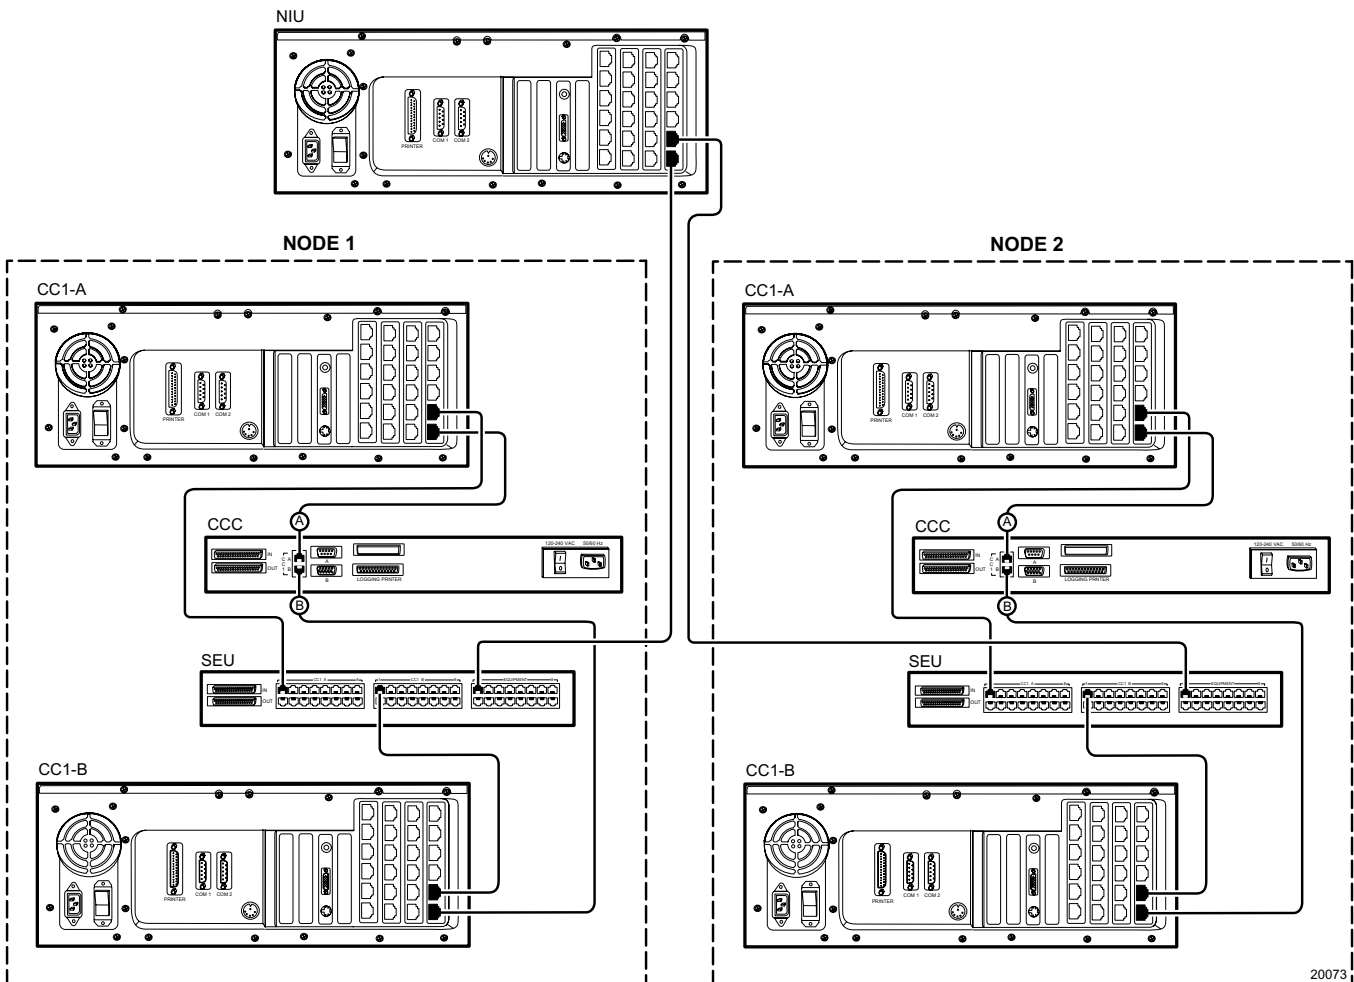
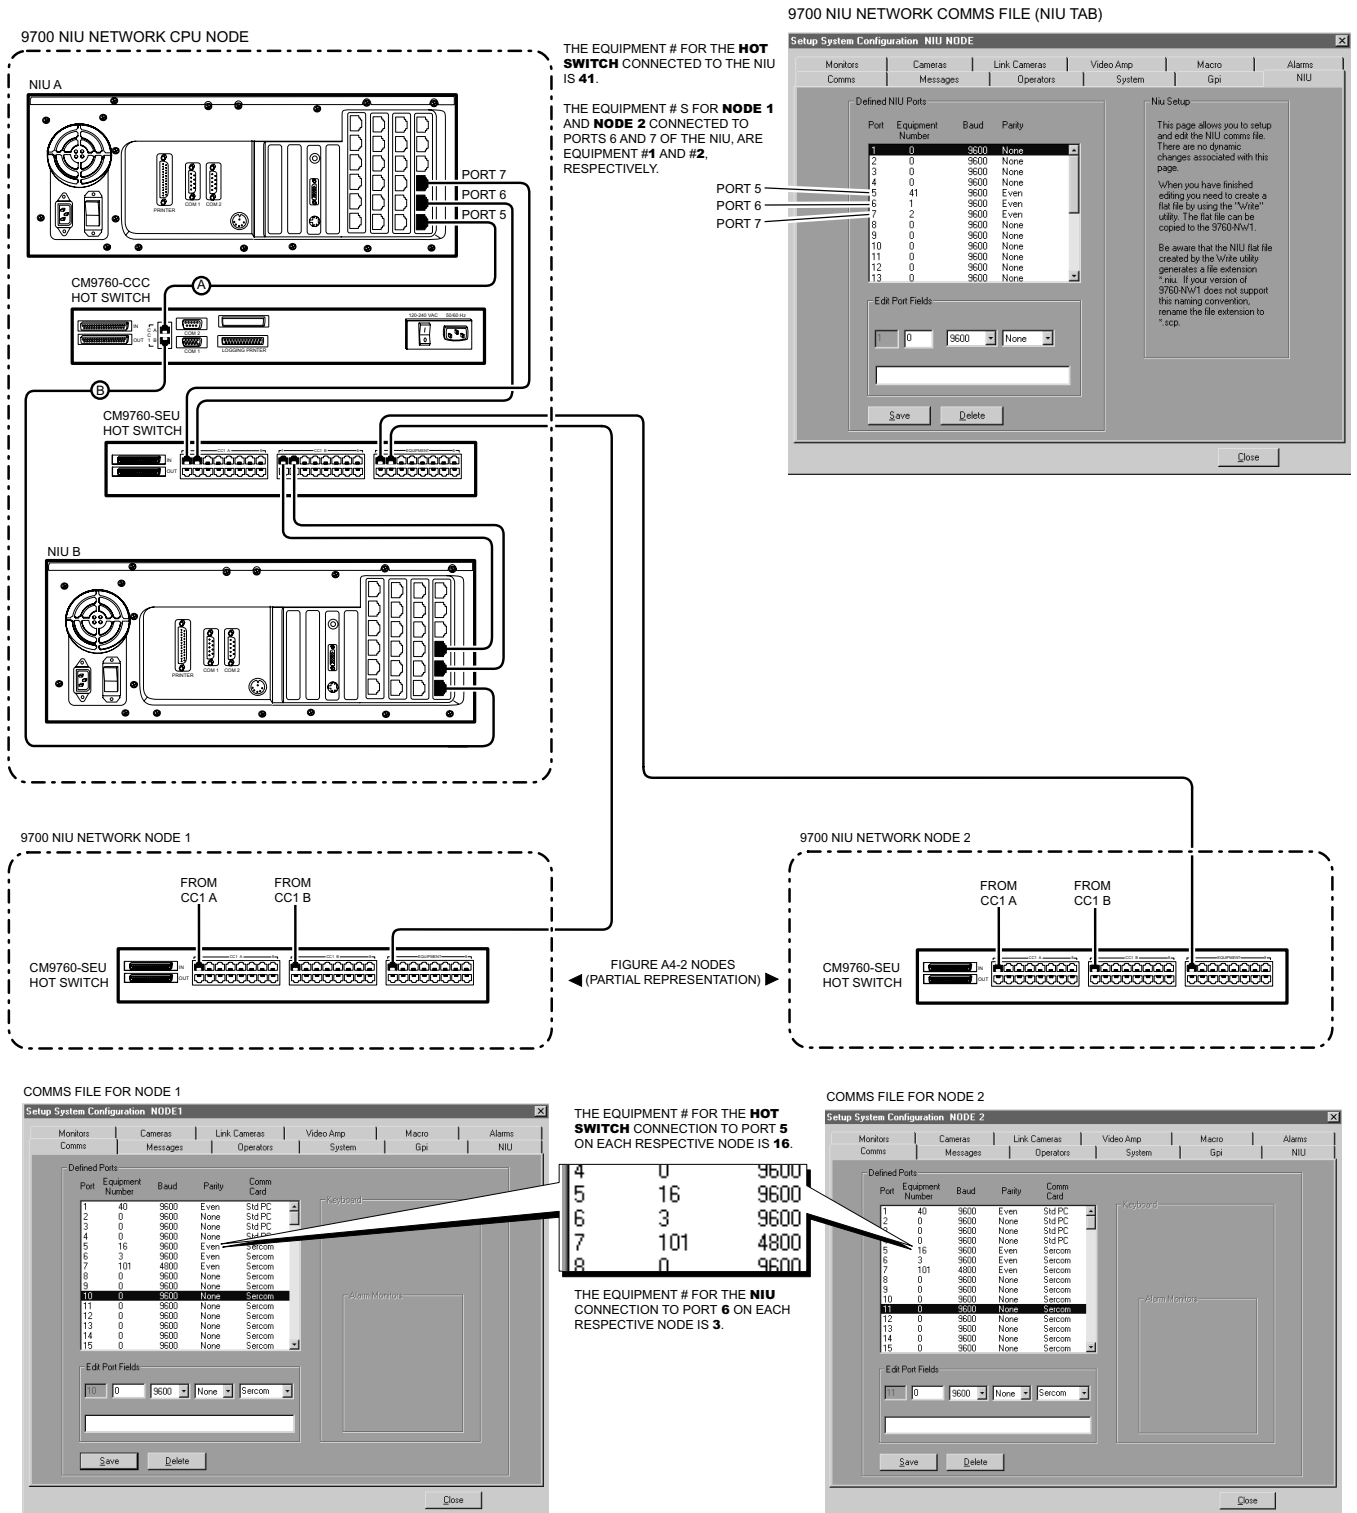

Figure A4-2. HS-NIU Connections
Figure A4-3. Hot Switch Interfaced NIU
Below are node-specific connections of NIU configurations, where each node is hot-switched. Note the following points, which are also reflected in Figure A4-2:
2. The port 6 Sercom connection of the NIU from each CC1 node (in ascending node order) is attached to the system NIU (in ascending node order), starting at NIU Sercom-port 5. It arrives there via routing through the SEU, as shown in Figure A4-2.
Interfacing network nodes with a hot switch (illustrated in Figure A4-2) can be extended to include the NIU itself. Figure A4-3 keeps the same node structure shown in Figure A4-2, except that now a hot switch interfaces the NIU. Note that the equipment numbers for hot switches contained in the respective port definition files for the NIU and the Nodes themselves are different. These are equipment numbers chosen for that specific configuration in order to differentiate between a hot switch hooked to a controlling Network NIU from one connected to a regular node (interfacing CC1s) within a network.